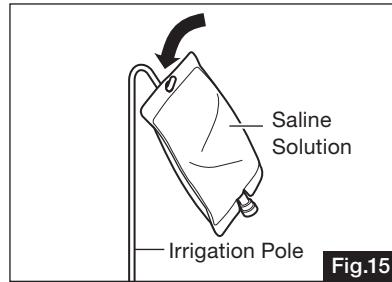

Fig.15
- Hang a saline solution on the Irrigation Pole, remove the cover of the Irrigation Tube Needle and insert the Needle into the bottle outlet. (Fig. 15.)